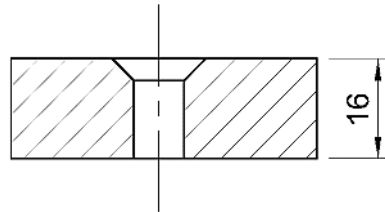

FIGURE 1
1.3 FIGURE 1 shows a sectional view through a counterbore hole. The hole diameter is  $\text{Ø}8$  mm and the counter hole is  $\text{Ø}15$  mm.